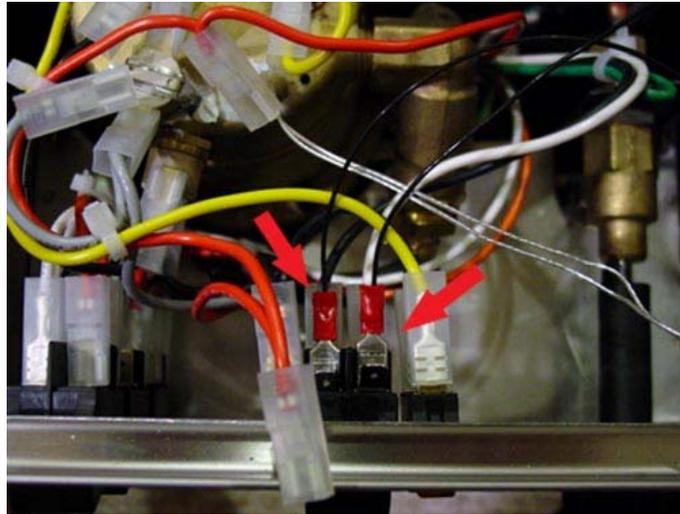
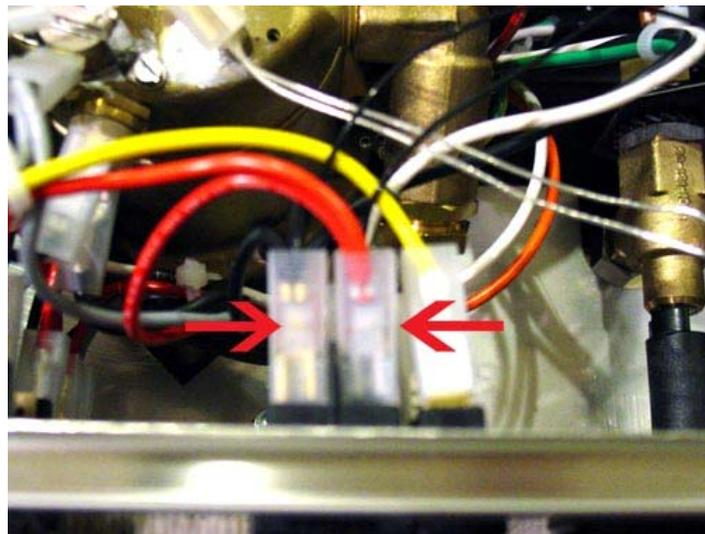

Fig 14. The controller power cable piggyback connector location (red arrow).
Figure 15. Put the original power cable back.
- 4) Tapping the controller power line to the espresso machine. The power for the controller is tapped from the main power switch by using a piggyback connector on the black cable. Remove the connector with black and red cable (red arrows on fig 15). Remember the original position: the connector with black cable should be on the left and connector with red cable in the center). Slide the two controller power cable piggyback connectors on to the switch as shown in Fig 14. The tab on the piggyback connector should be on the top. You might need to bend it downward a little bit if the angle is too high. There is no difference between the two black colored cables. After installing the connector, connect the cables that were just removed to the tab on the piggyback connector. It is very important to keep the original position, black on the left and red in the center (Fig. 15),